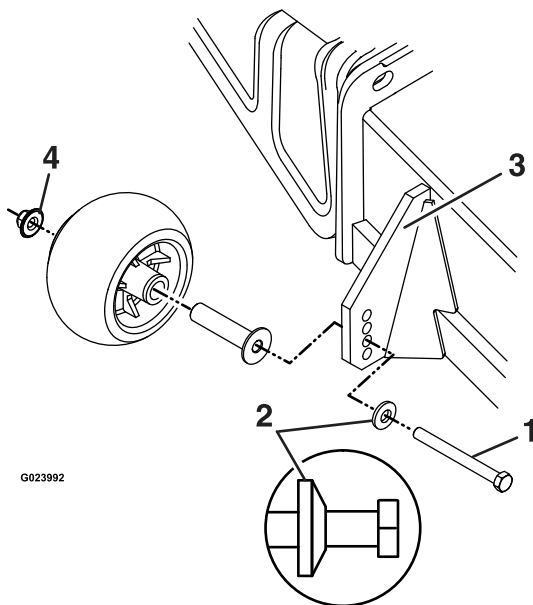

Figure 30
- A. Be sure the roller bolts are installed with the spring disc washer between the head of the bolt and the mounting bracket (see Figure 30).